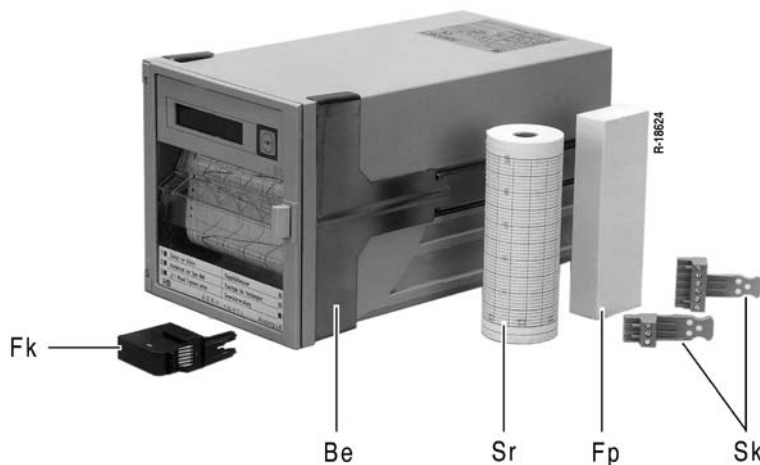

Figure 1 Scope of delivery of the POINTAX 6000M
1.1 Scope of delivery (see Figure 1)